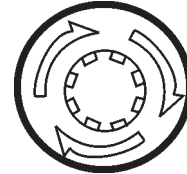

**Figure 56. Battery ON/OFF Switch (OFF)**
6. Place the battery ON/OFF switch (Figure 56) in the **OFF** position.
This indicator (Figure 56) is attached to the air cleaner. When the air cleaner element is clogged, air intake restriction becomes greater and the dust indicator signal shows **RED** meaning the element needs changing or service. After changing the air element, press the dust indicator button to reset the indicator.